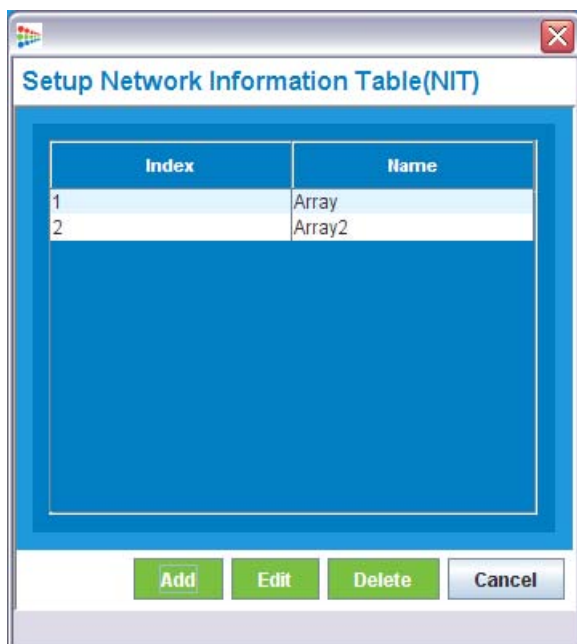

Figure 119. Setup Network Information Table screen
2. In the NIT window that appears, click **Add** to add a new NIT or **Edit** to edit an existing NIT. The **Setup Network Information Table (NIT)** appears (Figure 119).